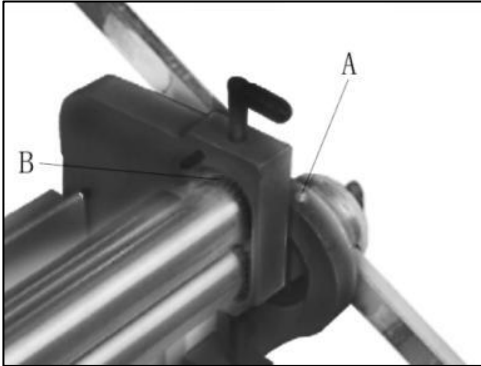

Figure 16
1. Apply #2 lithium tube grease once a month to the grease nipples on both ends of frame (A, Figure 16).
3. Lightly brush multi-purpose grease onto the gears at the end of the rollers (B, Figure 16). Turn operating handle to distribute the grease.